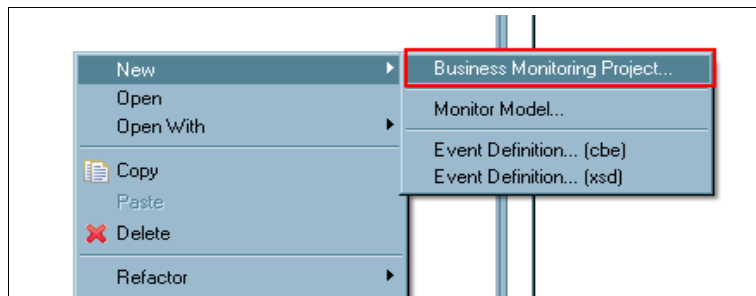

Figure 8-25 Create new project
4. Right-click in the Project Explorer, select **New Business Monitoring Project**. See Figure 8-25.